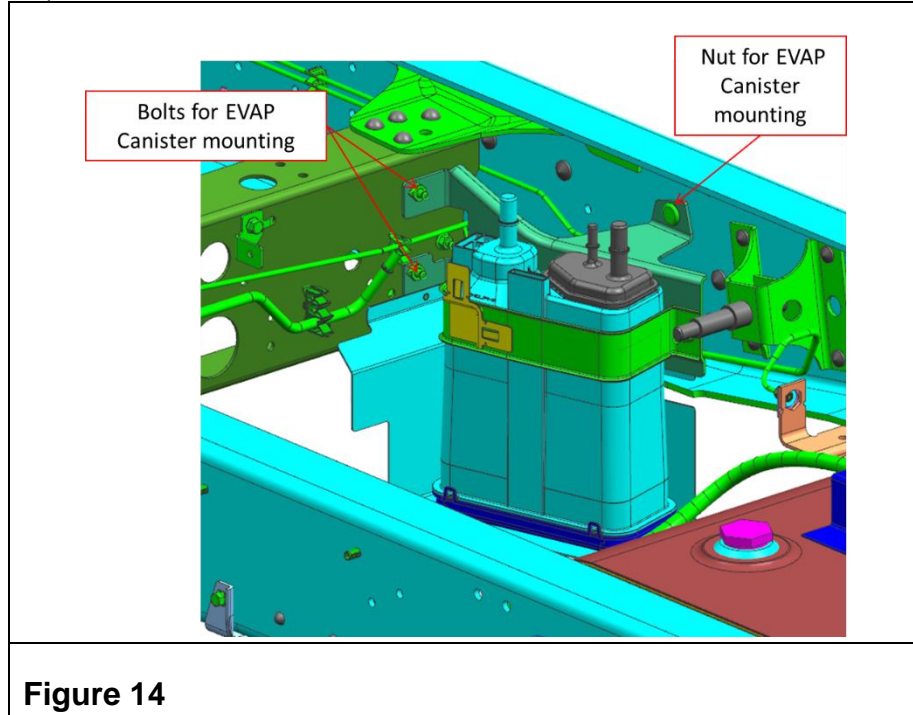

**Figure 12**
9. Install the new EVAP Hose Bracket using the nut for the cross member as indicated in Figures 12 and 13. Tighten the nut to 22 N·m (16 lb-ft).